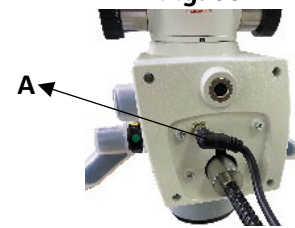

Fig. 35a
2. Connect 2 Pin connector A to the inlet power up the LED System of Microscope. Refer Fig. 35a.